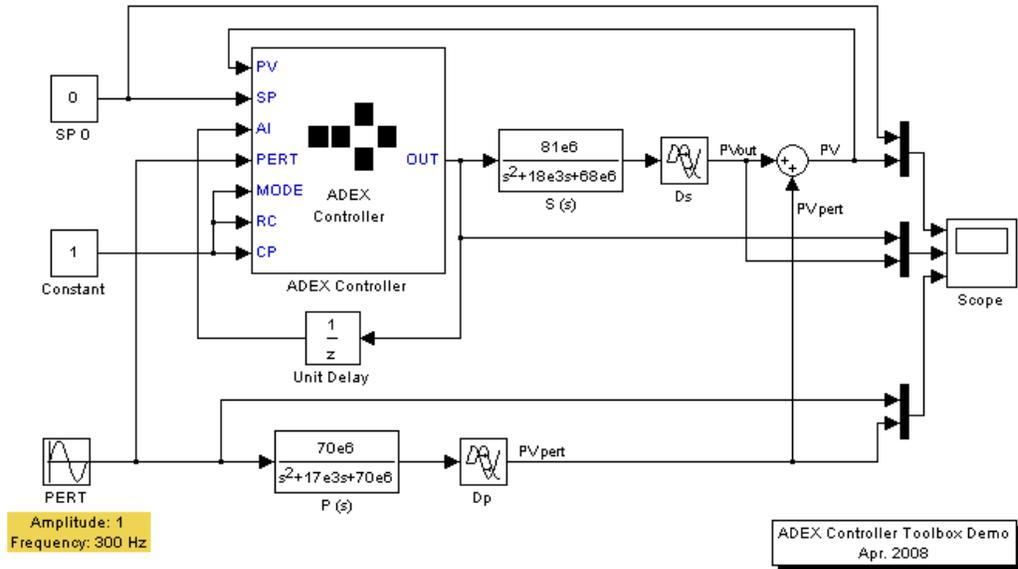

FIGURE 17. SCHEME
In this case, it is assumed that Actual Input (AI) is directly the same as the OUT delayed by duration of the sampling period (ST). Figure 17 shows the proposed diagram: